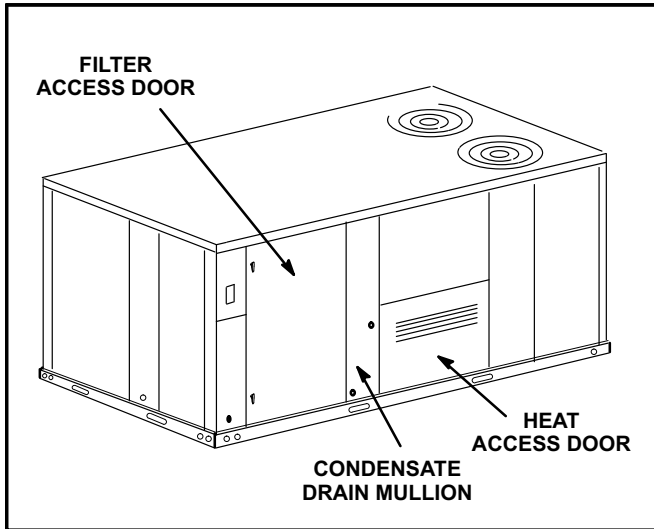

FIGURE 5
- 1- Remove heat access door. See figure 5.
- 2- Remove filter access door. Refer to figure 5.